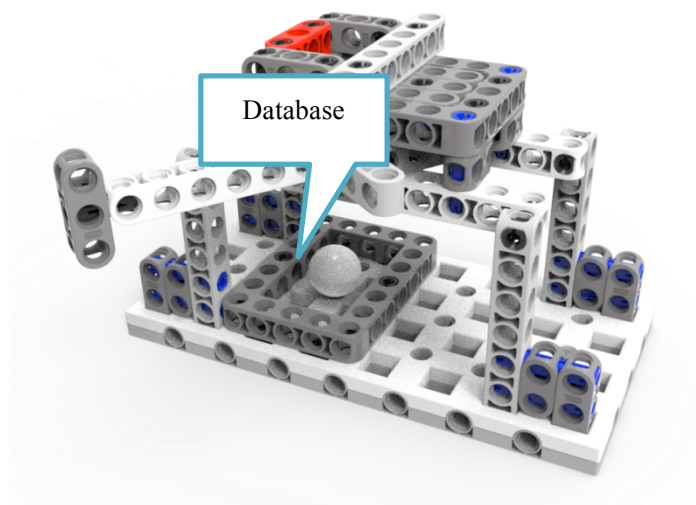

Figure 3-2-2 Data Download Finished Status
3.2.3 By pushing and rotating the handle, the data is downloaded to the database (as shown in Figure 3-2-2, 80 points).